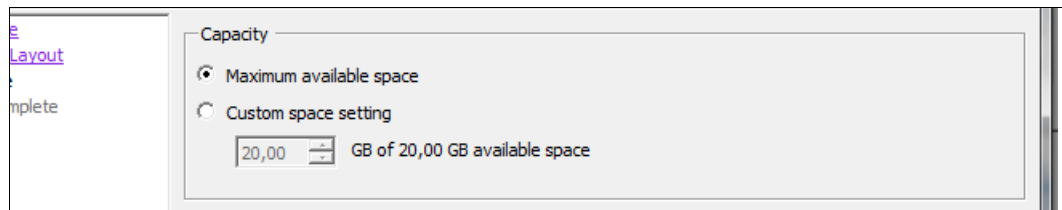

Figure 7-23 Capacity to add
- f. Select all of the available capacity to be added to the datastore (Figure 7-23).